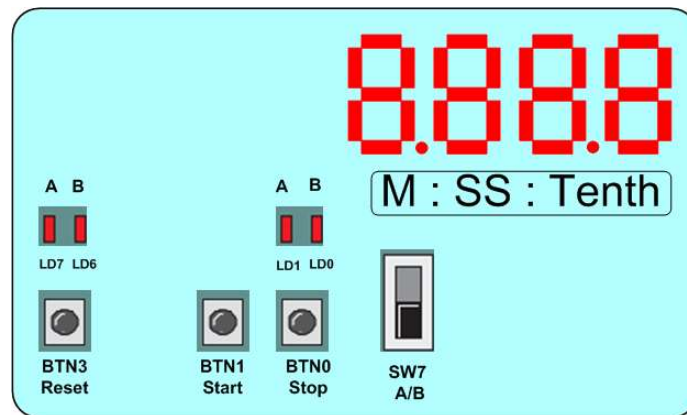
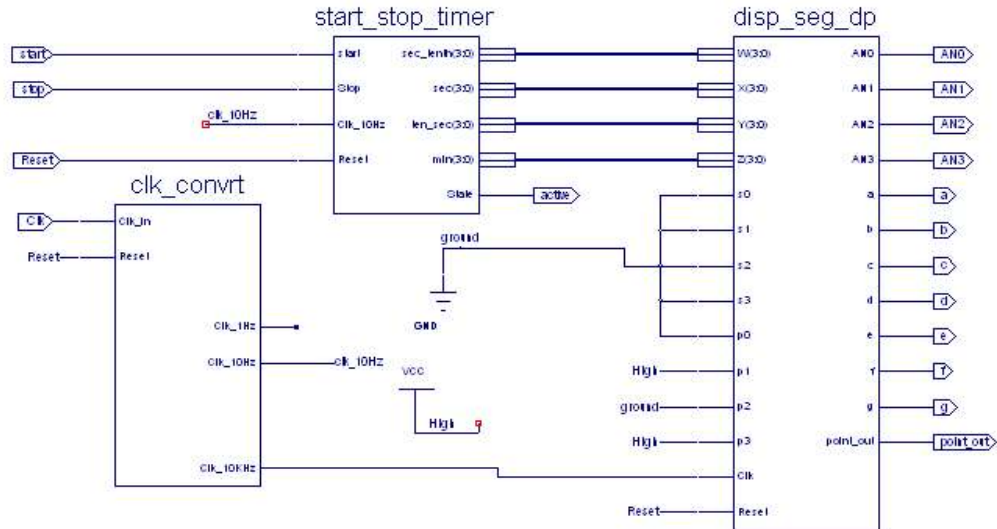
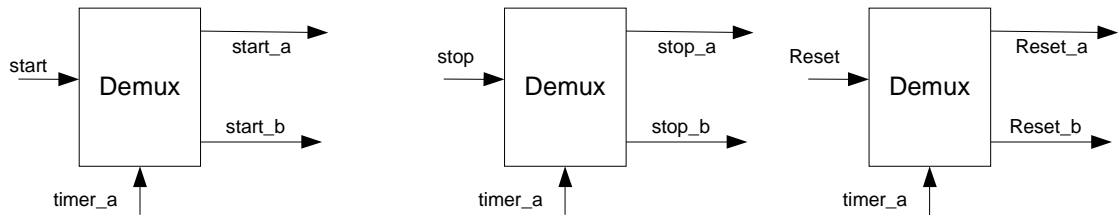
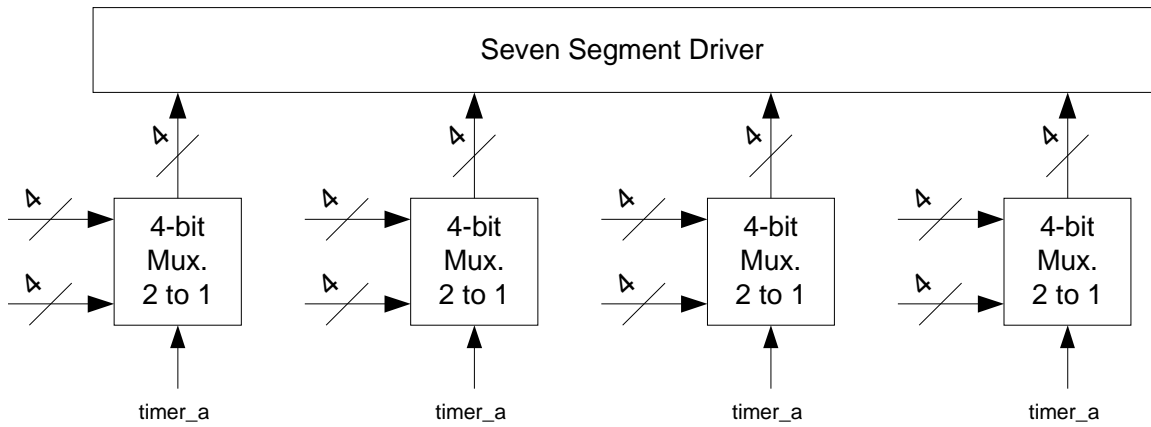

Figure 1
Figure 6
Figure 7: Demultiplexing at inputs
Figure 8: Multiplexing of stopwatches outputs
Figure 1 shows the overall picture of the system. The system consists of two stopwatches A and B. You are going to use the Spartan3 starter board for this design. The least significant digit displays tenths of a second. The most significant digit displays minutes, and the two middle digits represent tens of seconds and seconds respectively. Here we describe the behavior of the system.
27. Create a new schematic in your project similar to Figure 6. This represents a single stop watch.
Now you can complete your dual stopwatch using the subsystems you have already designed. You need to use two single stopwatches, demultiplex the inputs to the system, and multiplex the outputs of your stopwatches to implement a dual stopwatch. You can use Figure 1, Figure 6, Figure 7, and Figure 8 as guidelines.